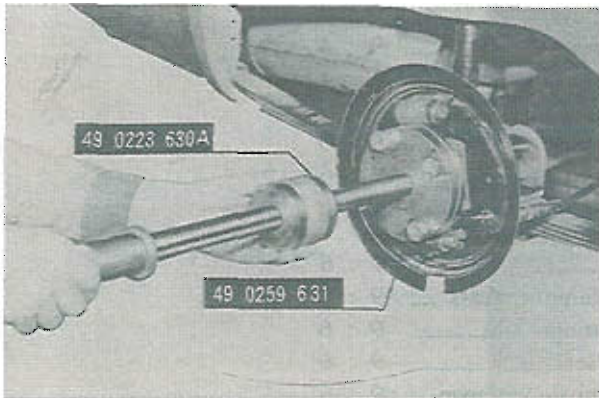

Fig. 9-1 Removing of rear axle shaft
5. Remove the rear axle shaft from the rear axle housing, using the **rear axle shaft remover** (Part Nos. 49 0223 630A and 49 0259 631), as shown in Fig. 9-1.